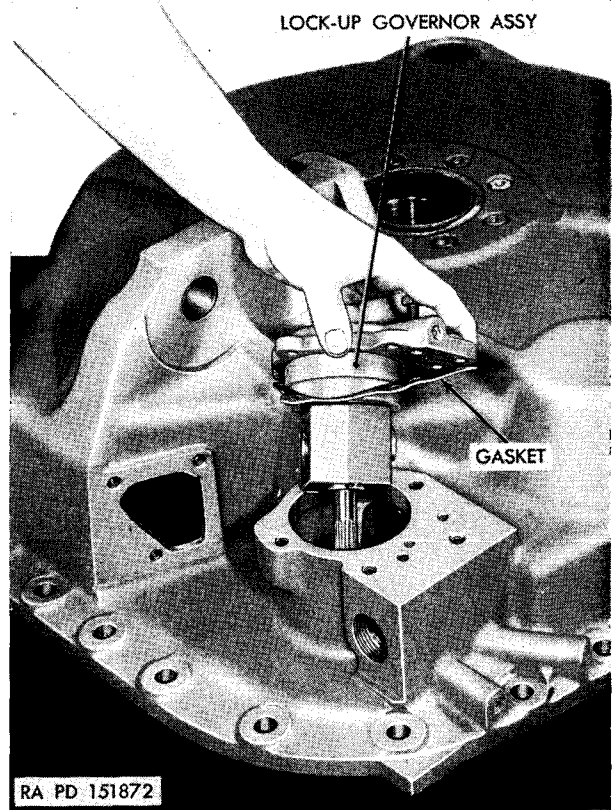

Figure 133. Removing or installing lock-up governor assembly.
- (4) Using a ½-inch wrench, remove the five bolts and washers from the converter lock-up governor. Remove the lock-up governor cover and lock-up governor as a unit and remove the gasket (fig. 133).